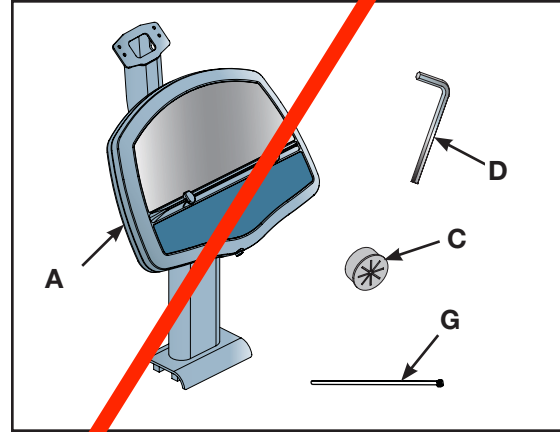
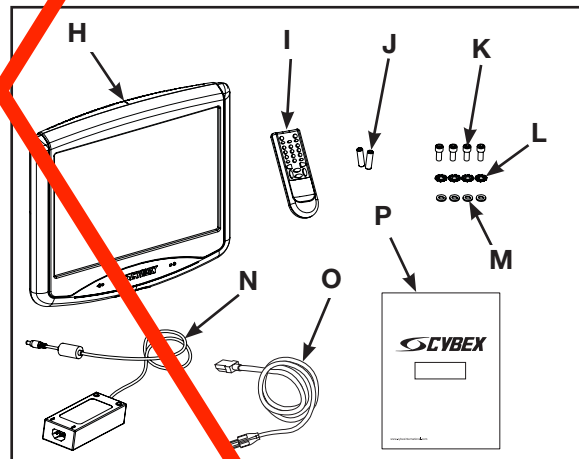
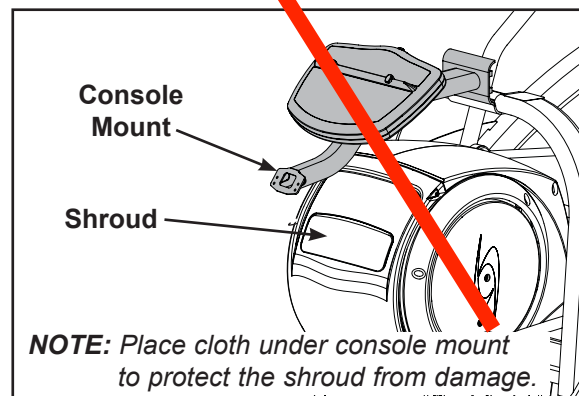

Figure 17
Figure 18
Figure 19
2. Verify the kit contents shown in Figure 17.
- A. Console with monitor mount (1), 630A-220
- B. Coax and power cables (1), 630A-104 (in Arc frame)
- C. Strain relief bushing (1), PP740000
- D. 3 mm Allen wrench (1), BK030210
- E. Poster (1), 630A-384 (not shown)
- F. Warranty sheet (1), LT-20219 (not shown)
- G. Cable tie (2), EW000028
3. Verify the monitor kit contents shown in Figure 18.
- H. Monitor (1), EE000005 or EE000007
- I. Remote control (1), EM000000
- J. Batteries, Remote control, AAA size (2) N/A
- K. Screws, Mounting, M4 x 0.7 x 10 mm (4), HC692860
- L. Washers, External Lock, (4), HS041300
- M. Washers, Flat, M4 (4), HS097600
- N. AC/DC Adapter (1), ET300038
- O. Power cord, 115 VAC 60 Hz (Country specific cords supplied with product), (1), EW600000
- P. Personal Entertainment Monitor Manual (1), LT-20191
- A. Lay the console mount on the Arc Trainer as shown in Figure 19. **NOTE:** This will allow easier access to route the cable assembly.